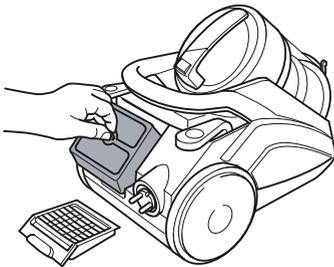

Fig. 33
The **hygienic exhaust filter (Fig. 33)** filters the finest particles out of the exhaust air.
3. Remove the hygienic exhaust filter by pulling the tab provided for this purpose (Fig. 33).
6. Put the cleaned hygienic exhaust filter back into its receptacle with the tab pointing up (Fig. 33).